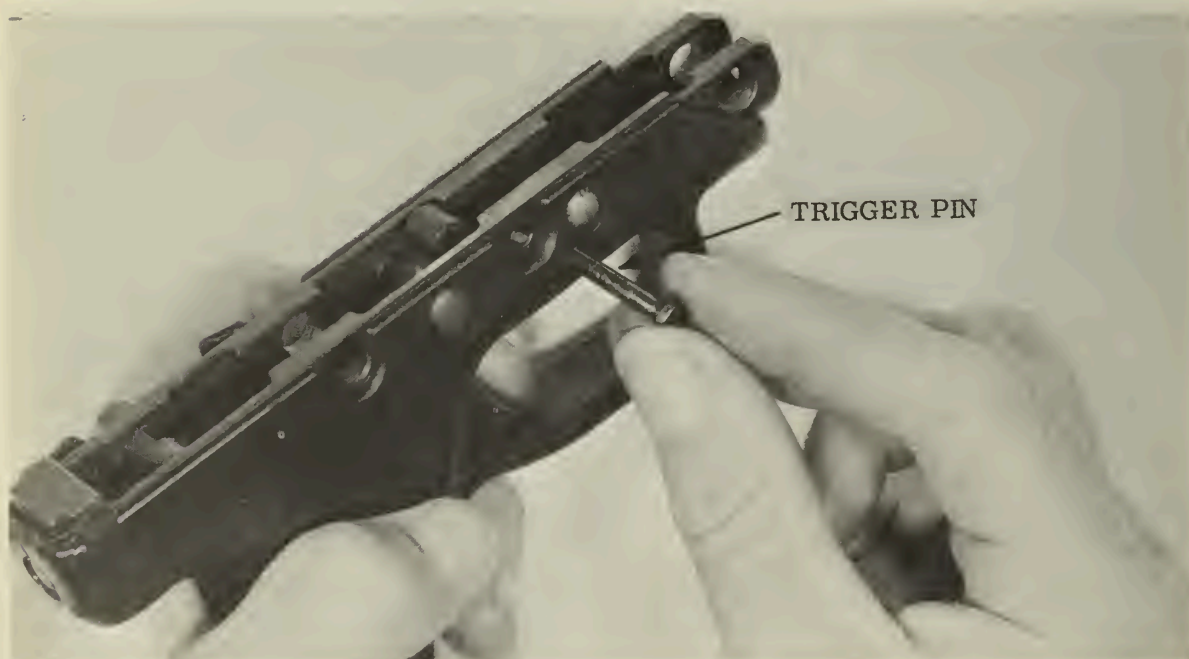

Figure 38. --Removing the Trigger Pin.
- (See fig. 38.) (d) Remove the trigger pin by pushing it to the right.